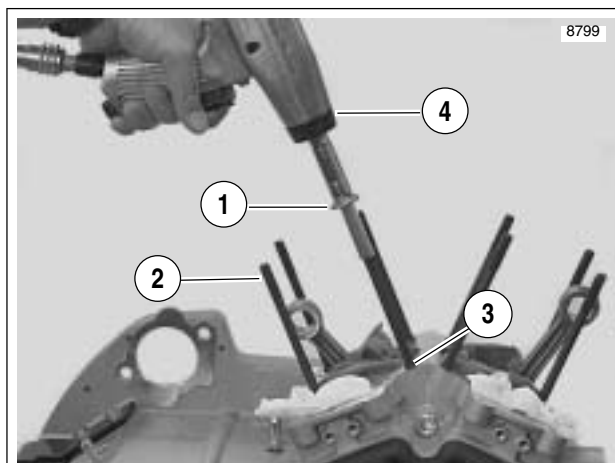

**Figure 3-153. Sprocket Shaft Seal/Spacer Installer
8. See Figure 3-153. Use SPROCKET SHAFT SEAL INSTALLER (Part No. B-45676) to install sprocket shaft seal.